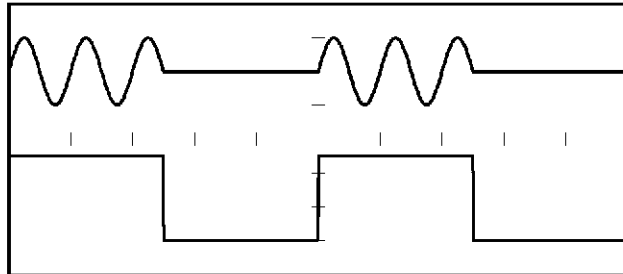

Figure 8-18 Waveform for Gated (level), Positive
44. Make sure with the oscilloscope that a sine wave signal is output only when the trigger signal is high, as shown in Figure 8-18.